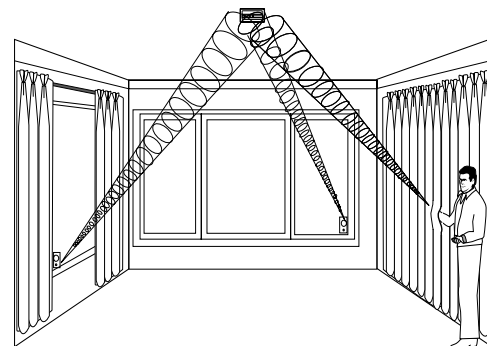

Figure 9 - Testing the Range
3. Hold the tester near the surface of the glass to be protected and aim the speaker at the detector. Be sure the tester is at the point on the glass farthest from the detector. If closed drapes or curtains are present, hold the tester behind them. See Figure 9.